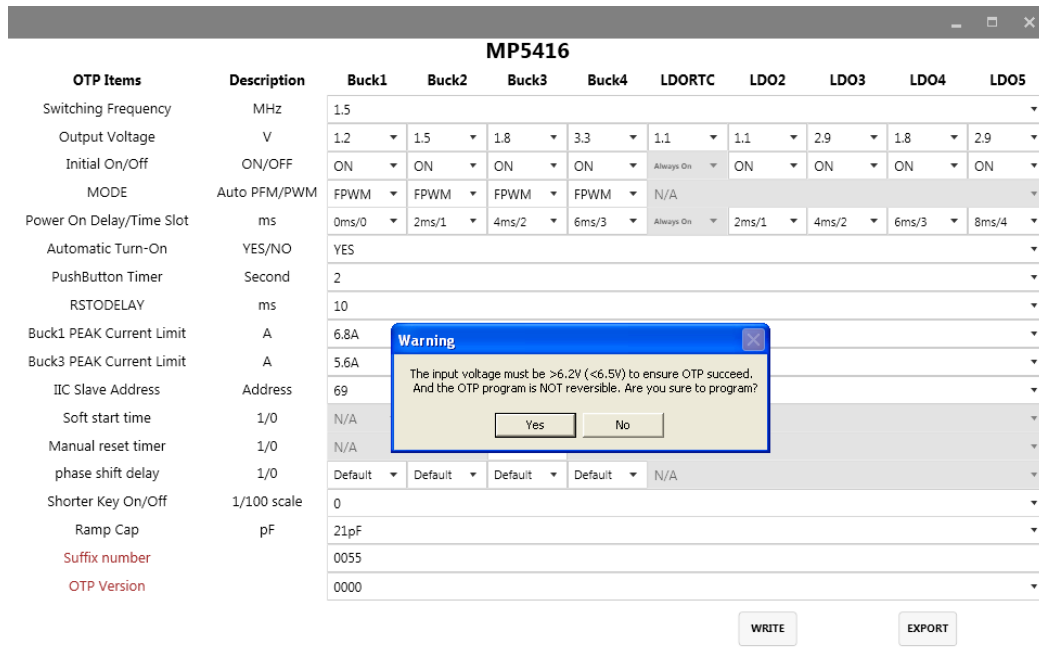

Figure 17: Important Warning – User Must Increase Voltage
12. Click the WRITE button. A window should pop up (see Figure 17).